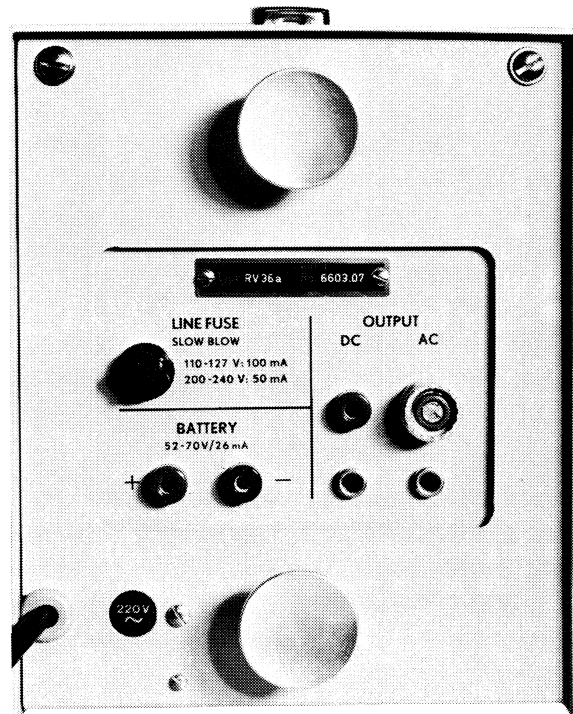

Fig.4. Rear view of the AF Millivoltmeter, type RV36
Both the voltage INPUT (4) and the amplifier AC OUTPUT (see Fig.4) terminals are UHF coaxial sockets, and accept regular 4 mm banana plugs. The DC OUTPUT (see Fig.4) and the battery input are 4 mm banana jacks.
As seen in Fig.4, the power cord, fuse and voltage indicator are all located on the rear of the instrument.